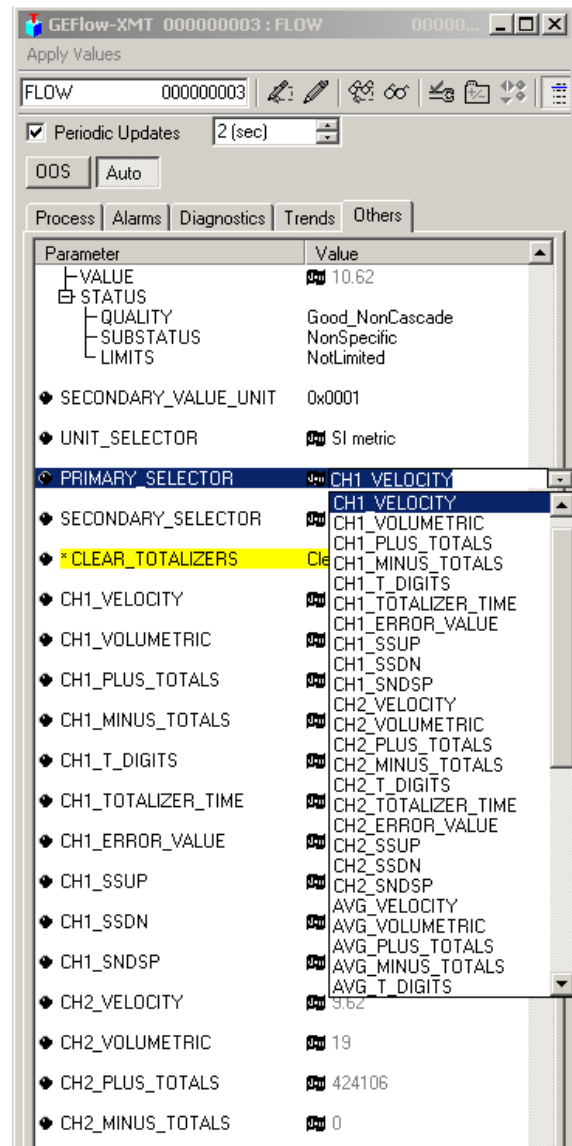

Figure 60: Primary selector drop down list
2. Select the *others* tab and open the drop down list for the PRIMARY\_SELECTOR and SECONDARY\_SELECTOR (refer to Figure 60 on page 86).
3. Choose the unit from the list (see Figure 60 on page 86).
4. After the desired measurements have been selected for the PRIMARY and SECONDARY\_SELECTOR, choose the unit system (UNIT\_SELECTOR above the PRIMARY\_SELECTOR) that was programmed in the flowmeter (English or SI), as shown in Figure 60 below.